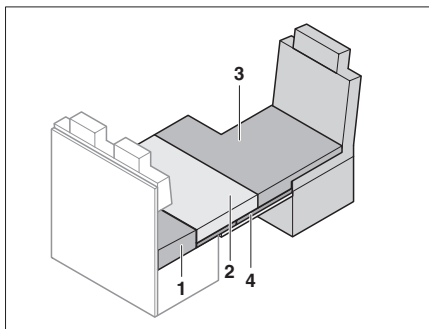

Fig. 120 After conversion
- Lay the additional cushion (Fig. 120,3) on the driver's seat.
- Lay the seat cushion (Fig. 120,2) on the guest bed foundation.